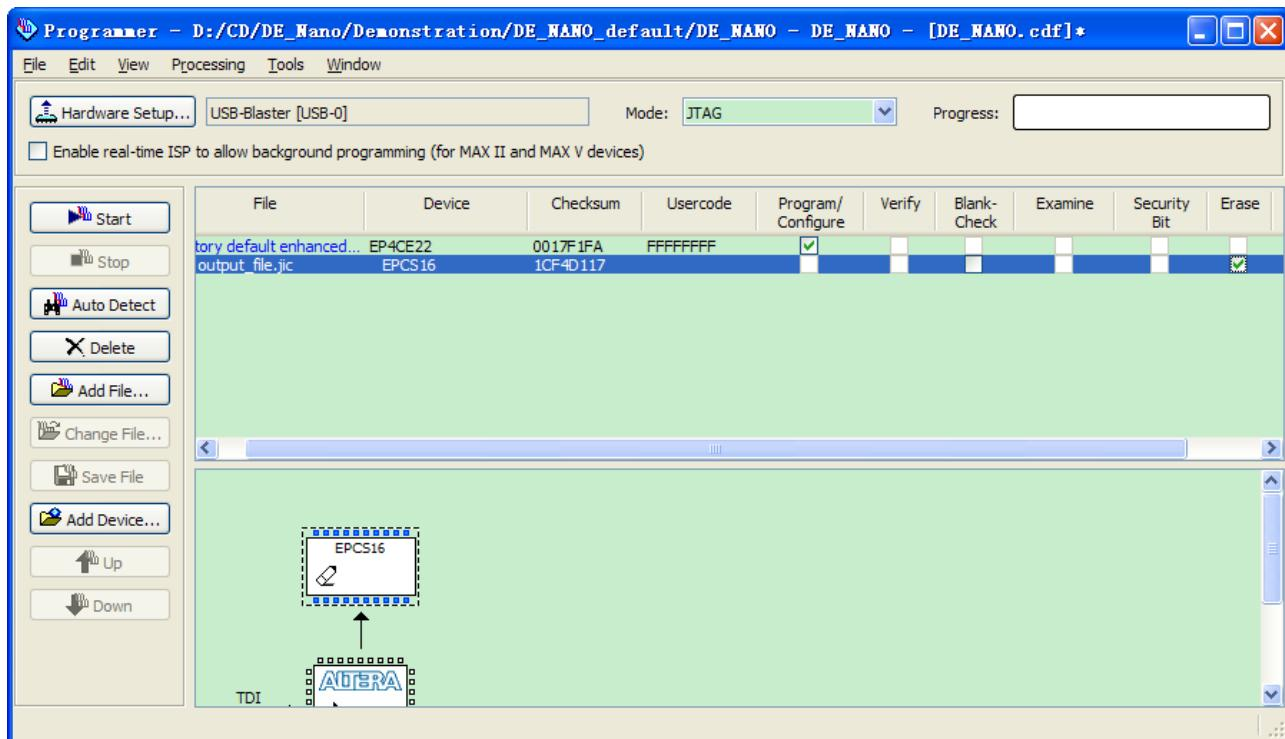

Figure 9-7 Erasing setting in Quartus II programmer window
- Erase the serial configuration device by checking the corresponding **Erase** box, a Factory default SFL image will be load (See **Figure 9-7**).